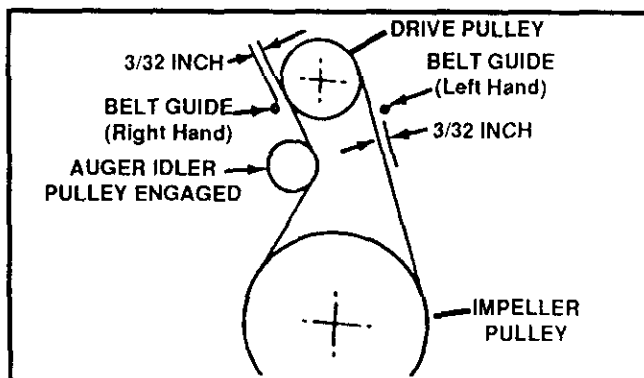

FIG. 9
- Loosen nut on auger idler pulley (See FIG. 9) and pull idler pulley away from belt.
- Measure the distance between the belt guides and the belt (See FIG. 9 in this section). The distance should be 3/32" for each guide.